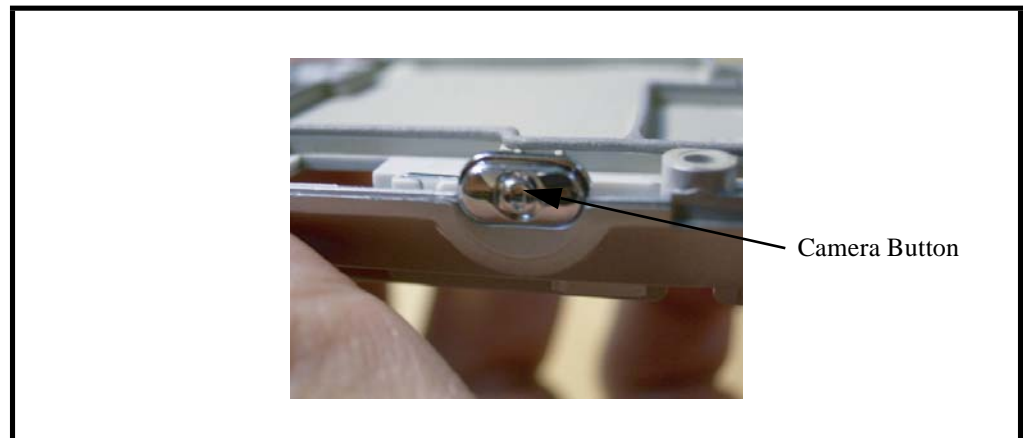

Figure 30. Removing the Camera Button
3. Remove the camera button from the phone as shown in Figure 30.